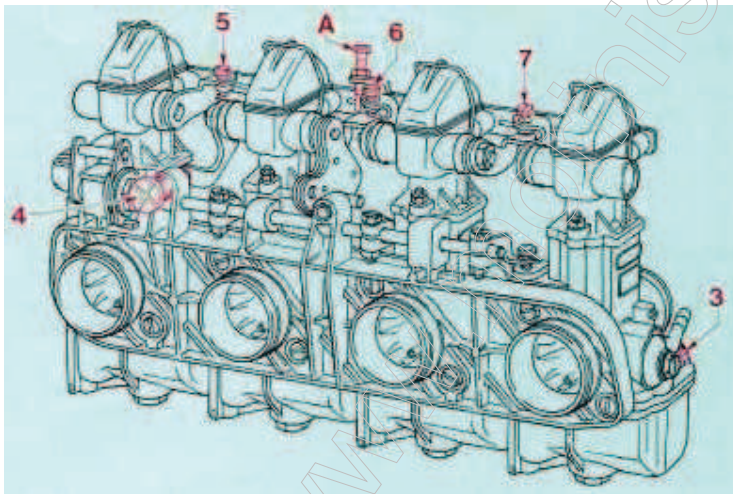

fig. 32
with Carburetors mounted together in a rigid group by means of a suitable flange (figure 32) and with a single control cable.
Make sure, both for independent (figure 31) and grouped Carburetors (figure 32), that each throttle cable has about 1mm free play at idle.
Start the engine and when it has reached normal running temperature, adjust the idle speed to about 1000 rpm using the throttle adjusting screw (2) in figure 31 or screw (4) in figure 32.
for Carburetors mounted together in a group (figure 32) align the mercury column levels with the level of the Carburetor connected directly to the throttle control, adjusting the balance-adjusting screws (5), (6), (7).
Recheck the alignment of the mercury columns and then reset the engine to the desired idle speed using the throttle adjusting screw (2) in figure 31 or screw (4) in figure 32.